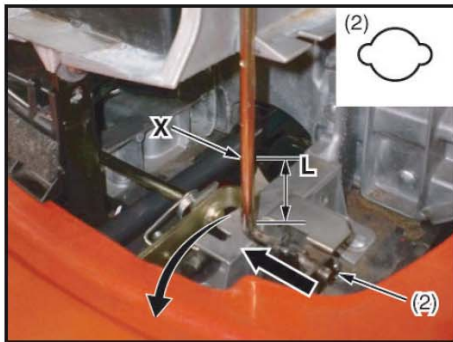

Fig. 5
Step 1) Cut Cruise Rod Under at the position indicated by X in Fig. 5.
- (1) Bolt Cutter
(2) Keyhole